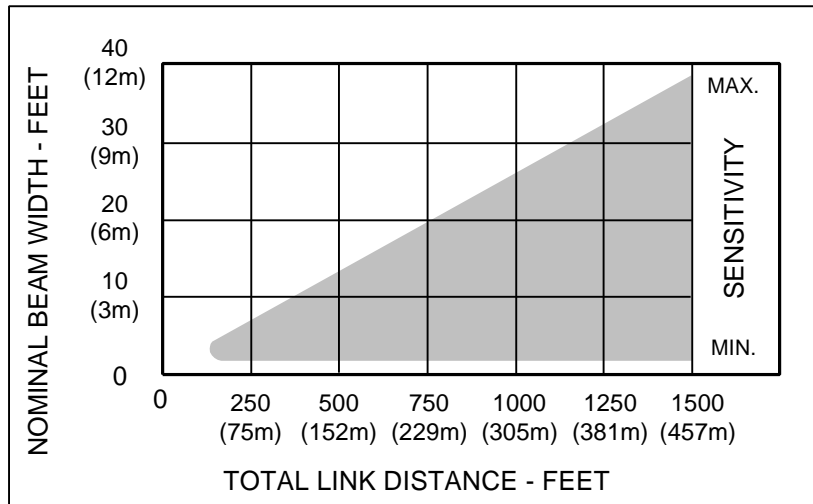
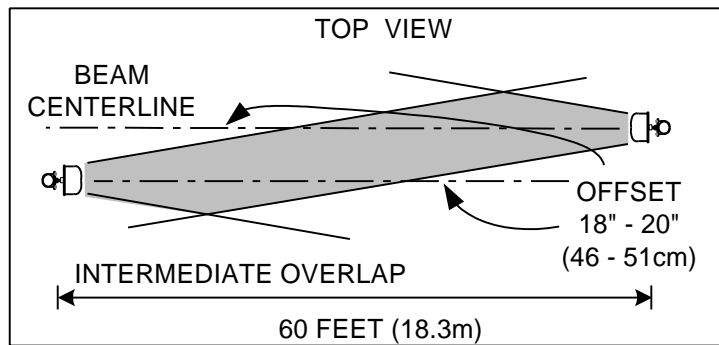
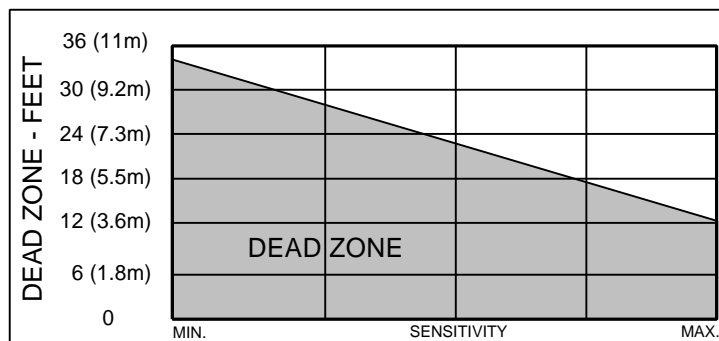

Figure 3 – Pattern Width vs Link Distance and Sensitivity
Figure 4C – Top View – Intermediate Overlap
Figure 5 – “Sensitivity” vs Dead Zone
Figure 3 illustrates how pattern width varies with Transmitter-Receiver distance and sensitivity setting. Actual patterns will vary somewhat with site topography and surface condition. Generally, lower mounting height or rougher surface will increase pattern width.
For example, if the total link distance is 750 feet (229m) and the sensitivity adjustment set to mid-point. Figure 3 indicates the detection pattern width to be twelve feet. (3.6m).
Figure 5 shows amount of overlap required to protect against hands and knees crawl, as a function of “Sensitivity” setting. For maximum security applications where detection of prone “commando style” crawl is required, the intermediate over-lap should be 60 feet (18.3m) minimum with parallel beam centerline offset of 18 inches (46cm) maximum. The corner overlaps should be 30 feet (9.2m) minimum. Terrain flatness should be no more than plus three inches or minus three inches deviation from a plane drawn between the transmitter and receiver. The zone length (Transmitter to Receiver) should not exceed 600 feet (183m).
Whenever signal exceeds either threshold voltage, an alarm is generated. Gain of signal amplifier may be adjusted with “Sensitivity” potentiometer on circuit board to modify protection patterns per Figures 3. Signal
- 1.2 Beam Diameter: 2 feet (.6m) to 40 feet (12.2m) depending upon link distance and "Sensitivity" setting per Figure 3.
The clear area required for a Model 310B installation depends upon the distance to be covered by the link. Protection patterns for various conditions are given in Figures 3. In each installation the clear area must be at least as large as the protection pattern.
For maximum security it is necessary to overlap the ends of links so that the dead spot below and immediately in front of the adjoining link is protected. This type of location gives maximum possible security. A 60-foot (18m) overlap is recommended at intermediate points, and a 30-foot (9.2m) overlap is recommended at corners. If site demands shorter overlap, increased sensitivity will reduce dead zone, per Figure 5, but will also widen beam, per Figure 3. The offset of overlapping links in line should be approximately 18 inches (46cm); this distance should be measured from center of each unit. (See Figure 4C.) Additional protection may be added at critical points by installing SOUTHWEST MICROWAVE, INC. Model 375C or 385 Monostatic Sensors, Model 405 or 410 Passive Infrared Sensors or stacked links.